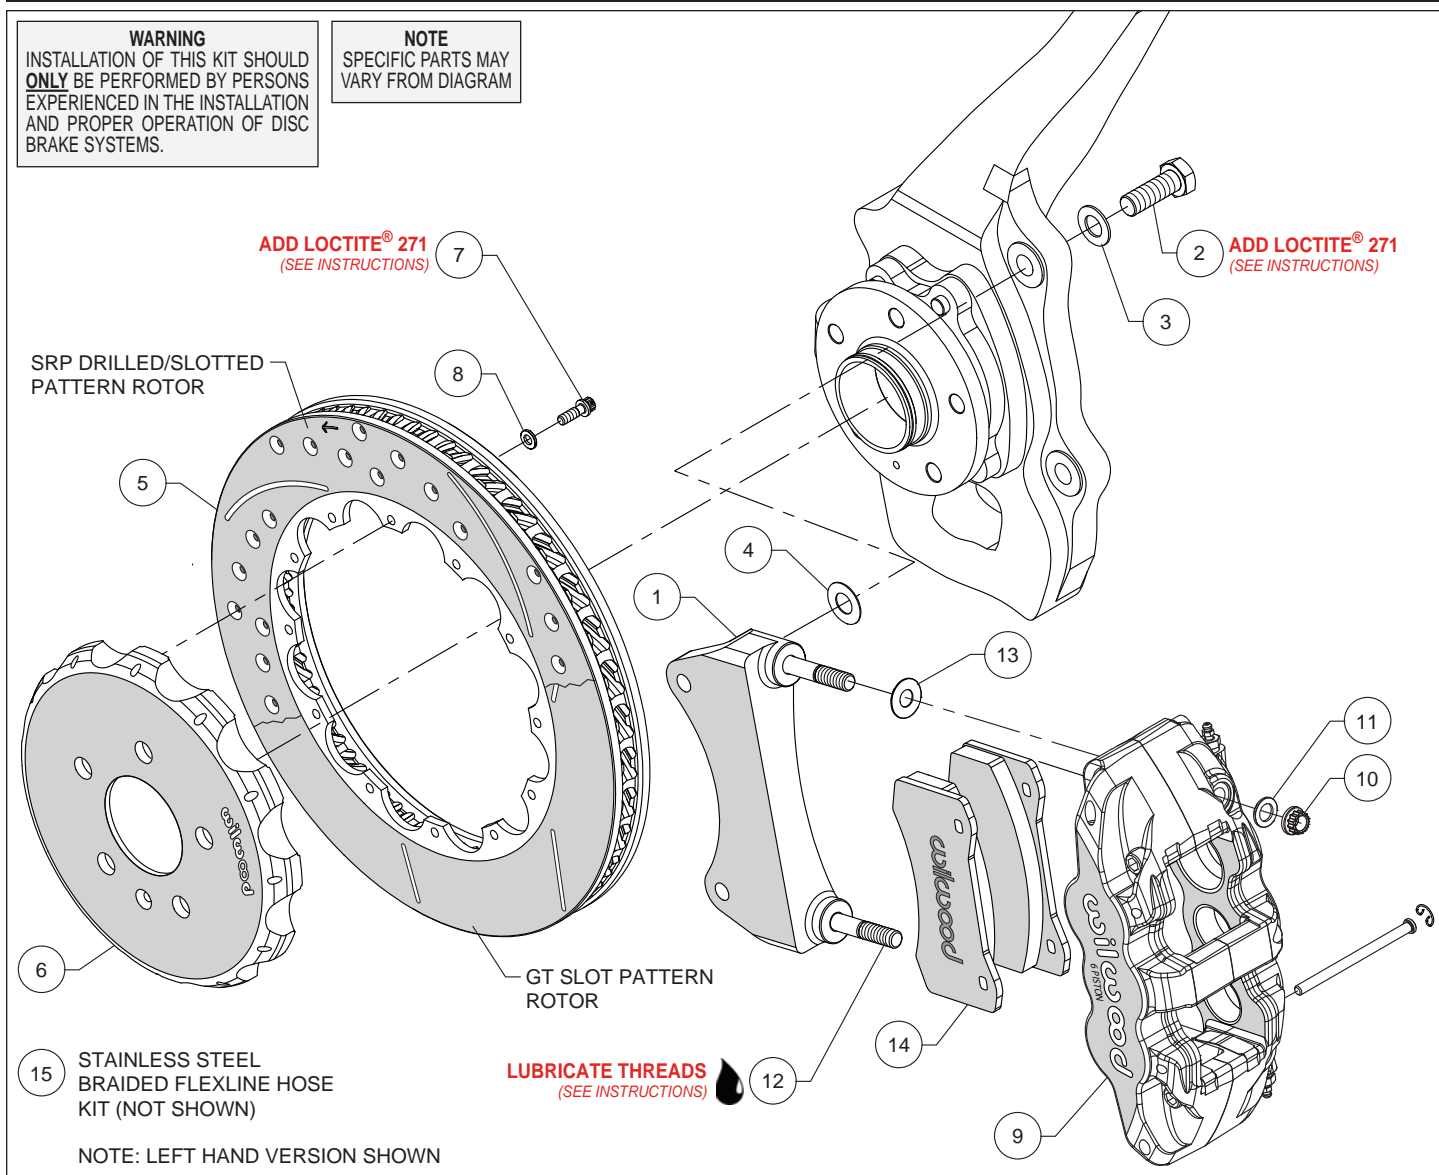
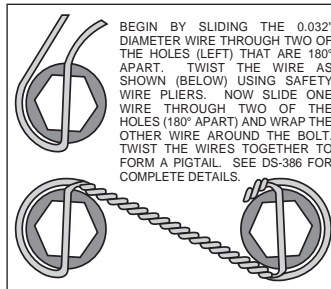

Figure 1. Typical Installation Configuration
Figure 3. Safety Wire Diagram
Assembly Instructions (numbers in parenthesis refer to the parts list and Figure 1 on the preceding pages):
- The caliper mount bracket (1) should initially be installed with clean, dry threads on the mounting bolts. Orient the bracket as shown in Figure 1 and Photo 1, and install using bolts (2) and washers (3). Initially place one .029 thick shim (4) on each bolt between the bracket and upright, Figure 1. Temporarily tighten the mounting bolts. **NOTE:** *The bracket must fit squarely against the mounting points on the upright.* Inspect for interference from casting irregularities, machining ridges, burrs, etc. Later, after the caliper alignment has been checked, the mount bolts will be secured using red *Loctite*® 271.
- Orient the rotor (5) and the hat (6) as shown in Figure 1 and Photo 2. Attach rotor to hat using bolts (7) and washers (8). Using an alternating sequence, apply red *Loctite*® 271 to the threads, and torque to 155 in-lbs. For an added measure of security, the bolts may be safety wired using standard 0.032 inch diameter stainless steel safety wire as shown in Figure 3. Please refer to Wilwood's data sheet DS-386 (available at www.wilwood.com/Pdf/DataSheets/ds386.pdf) for complete safety wire installation instructions.
- **NOTE:** *This kit contains distinct right and left hand calipers that must be mounted in a specific direction, as described below.* Lubricate the caliper mounting studs (12) with lightweight oil. Initially place one .030" thick shim (13) on each stud between the caliper and the bracket, as shown in Figure 1 and Photo 5. Mount the caliper (9) onto the bracket (1) using lock nuts (10) and washers (11), Figure 1. Ensure that the caliper is mounted so the largest pistons are at the rotor exit end of the caliper, in relation to the direction of rotor rotation. Temporarily tighten the lock nuts and view the rotor through the top opening of the caliper. The rotor should be centered in the caliper, Photo 6. If not, adjust by adding or subtracting shims (4) between the bracket and the upright. Always use the same amount of shims on each of the two mounting bolts. Once the caliper alignment is correct, remove the bracket mounting bolts (2) one at a time, apply red *Loctite*® 271 to the threads, and torque to 77 ft-lbs.
- Remove the two pad retaining pins from the caliper (9) by carefully popping out the pin retaining clips and sliding out the pins. Insert the brake pads (14) into the caliper from the bottom, Figure 1 and Photo 7. With the friction material facing the rotor, secure the brake pads in place with the pad retaining pins and